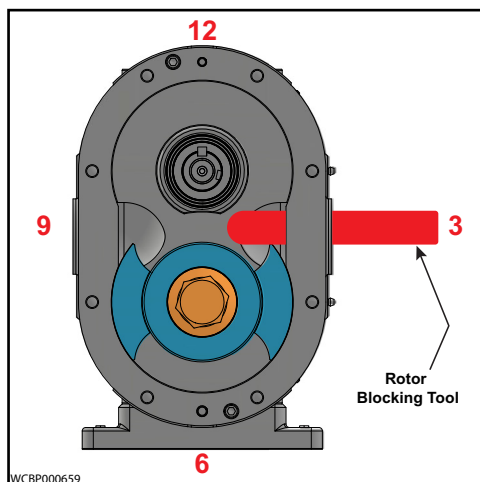

Figure 37 - Block other Rotor
5. Insert the rotor blocking tool through the port to lock the other rotor, as shown in Figure 37.